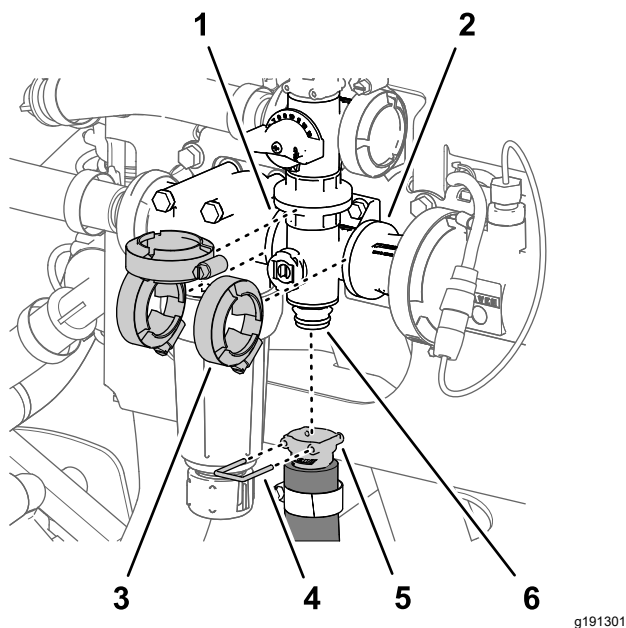

Figure 123
- 1. Remove the quick connect pin that secures the quick-connect coupler for the agitation hose to the manifold for the agitation valve (Figure 123).
- 2. Remove the 3 flange clamps that secure the agitation-valve manifold to the flanges of the pressure-filter head and the coupling adapter (Figure 123).